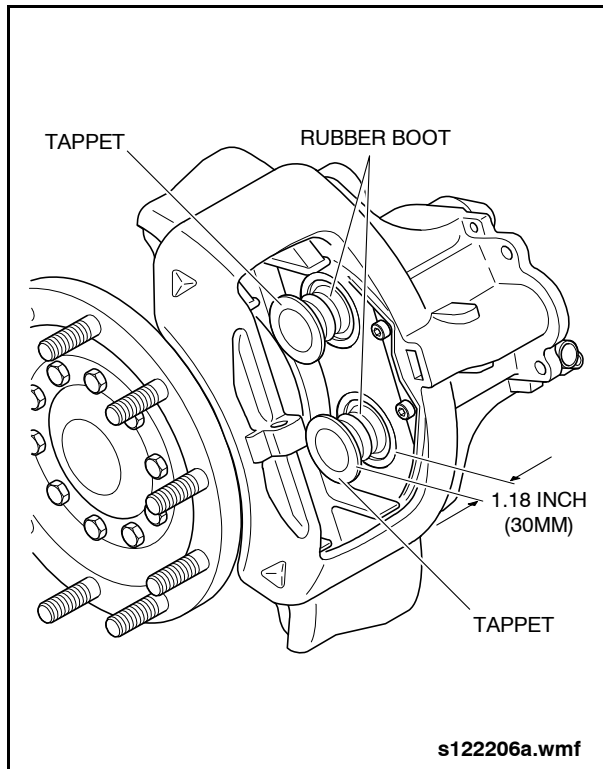

Fig. 5: Tappet & Rubber Boot Inspection
2. Rotate the adjuster clockwise until the tappets extend approximately 1.18" (30) from the caliper surface. This will allow full extension of the tappet rubber boot for a proper visual inspection. See "Fig. 5: Tappet & Rubber Boot Inspection" on page 6.